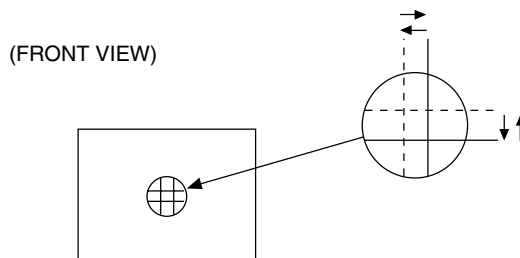

Fig. 4
2. Using 4-pole convergence magnets, overlap the red and blue lines in the center of the screen (Fig. 4) and turn them to magenta (red/blue).